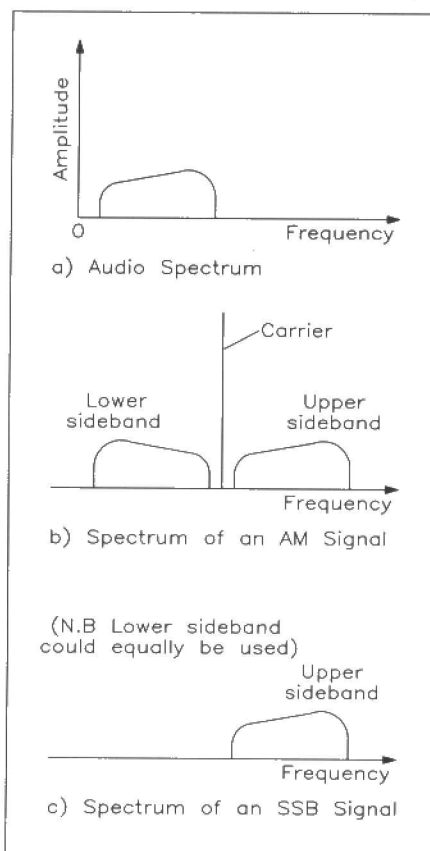

Figure 2. Spectra of AM and SSB signals.
Possibly the most common form of transmission is SSB. This is used for normal speech communications, and it is a derivative of the amplitude modulated (AM) signals found on the long, medium and short wave bands. A normal AM signal consists of a carrier with two sidebands extending out either side as shown in Figure 2. The carrier is there just to act as a reference during demodulation, and as it takes most of the power of the transmission it makes the transmission very inefficient. The two sidebands carry all the audio information. However, they are mirror images of one another and mean that the signal takes up twice as much bandwidth as necessary. To make the transmission more efficient, one sideband and the carrier are removed. This means that a beat frequency oscillator (BFO) is needed in the receiver to de-